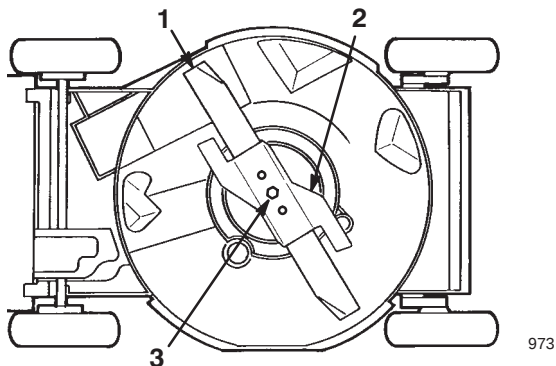

Figure 25
4. Tip the lawn mower on its **left** side (air filter up) (Fig. 25).